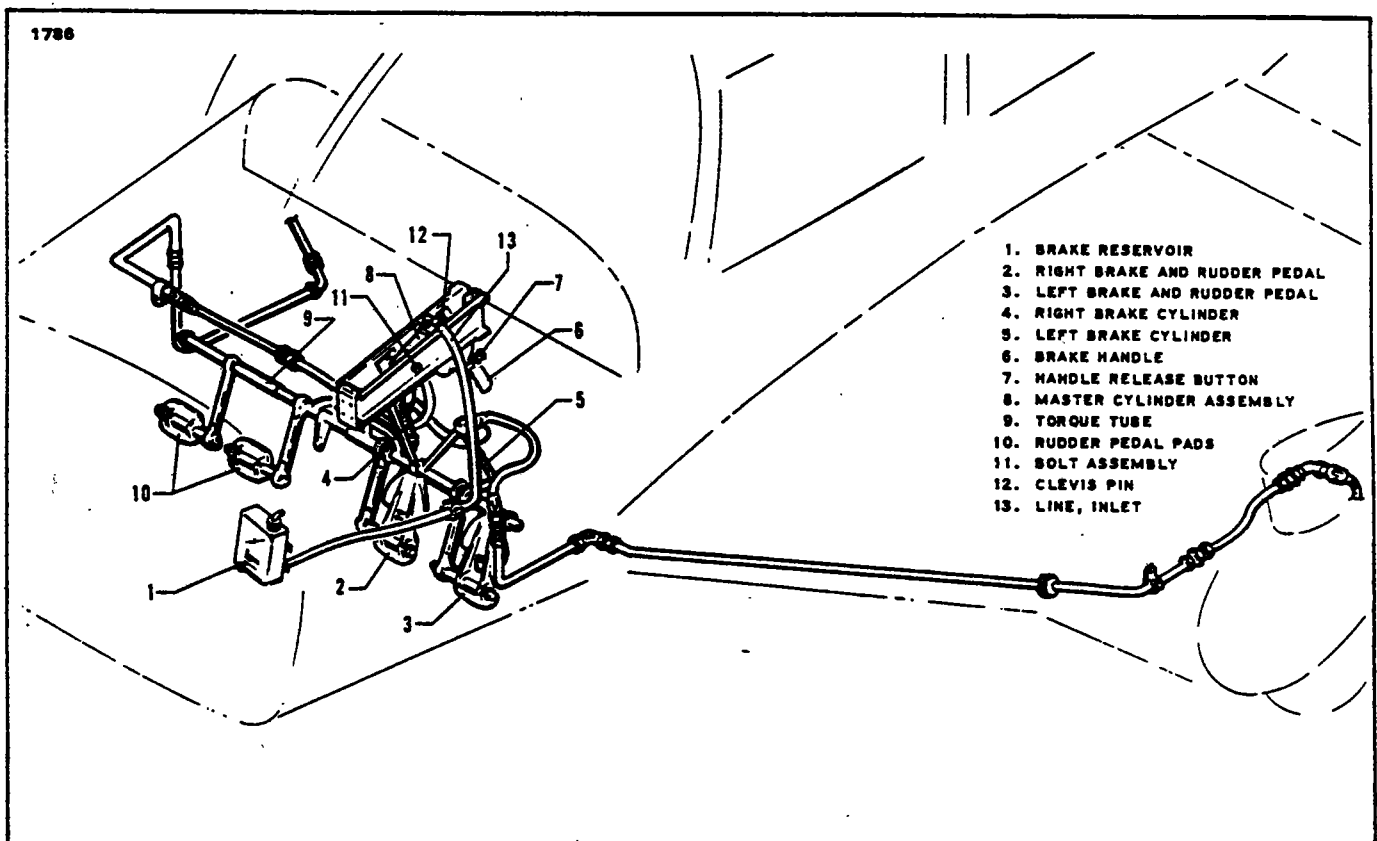

Figure 7-14. Brake System Installation
**7-35. REMOVAL OF BRAKE MASTER CYLINDER. (Hand Brake.) (Refer to Figure 7-14.)**
- a. To remove the brake master cylinder (8), first disconnect the inlet supply line (13) from the fitting at the top of the cylinder and allow fluid to drain from the reservoir and line into a suitable container.
- c. Disconnect the end of the cylinder rod from the brake handle (6) by removing the cotter pin that safeties the connecting clevis pin (12). Remove the clevis pin and spacer washers.
- d. Disconnect the base of the cylinder from its mounting bracket by removing the attaching bolt assembly (11).
### 7-39. INSTALLATION OF BRAKE MASTER CYLINDER. (Hand Brake.) (Refer to Figure 7-14.)